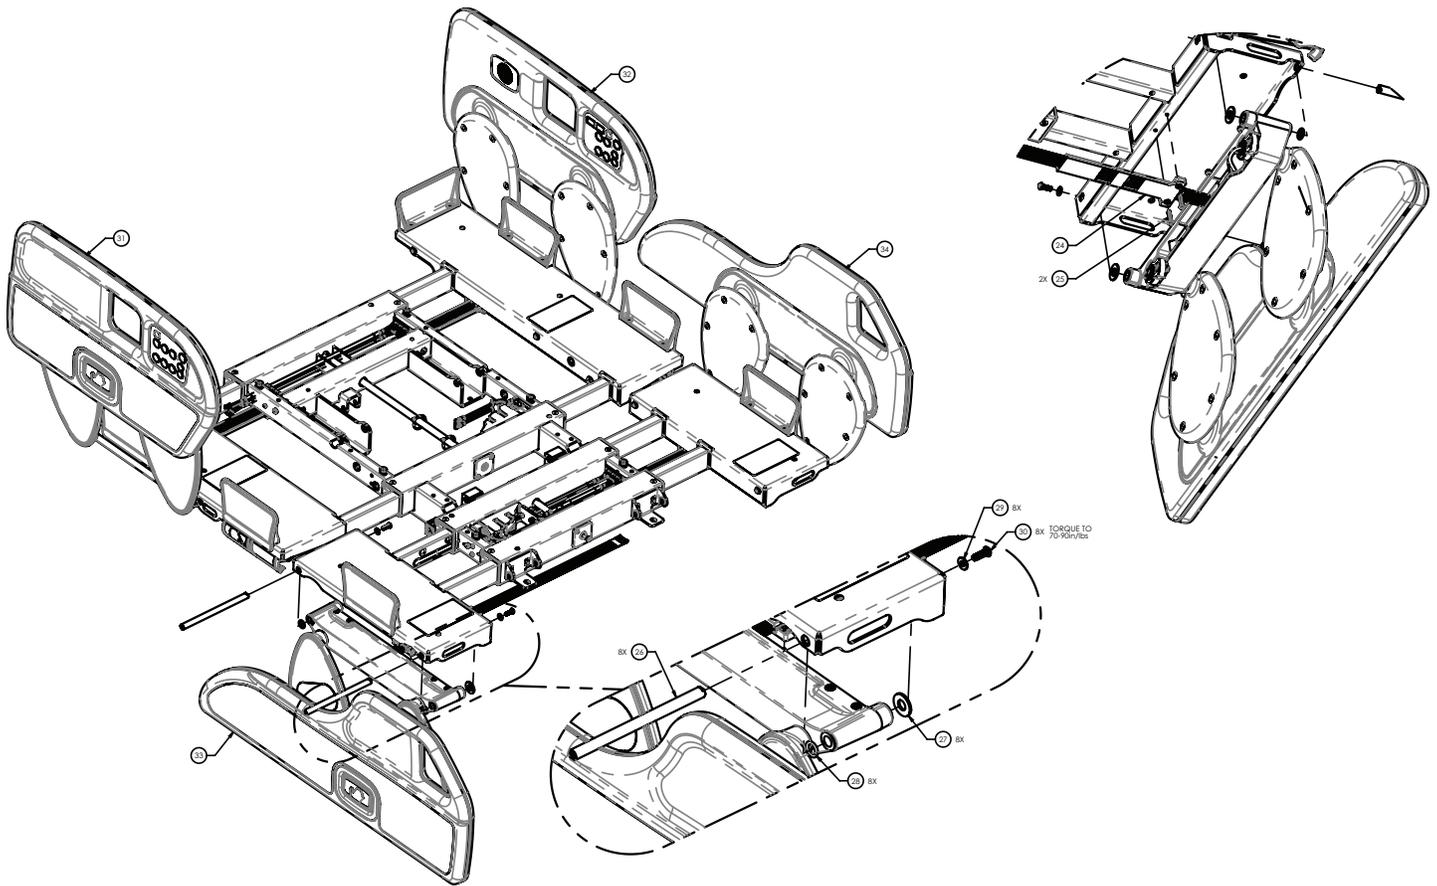

Figure 43 – Siderail replacement, foot end
8. Using a T15 Torx driver, remove the two screws (22) that secure the junction board assembly (44) to the siderail carrier (1) (Figure 43). Remove the junction board assembly.
9. Unplug the two siderail cables from the junction board assembly (44).
10. Using a T27 Torx driver, remove the screw (30) and washer (29) that secures the guide rod to the litter (Figure 43).